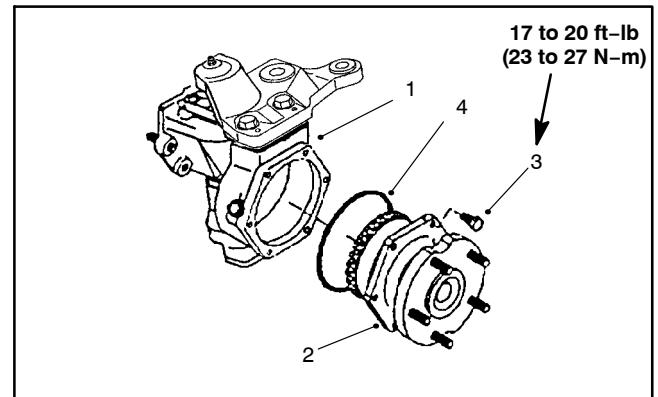

Figure 25
1. Remove the axle cover mounting screws. Remove the axle cover from the axle case as an assembly (Fig. 25).